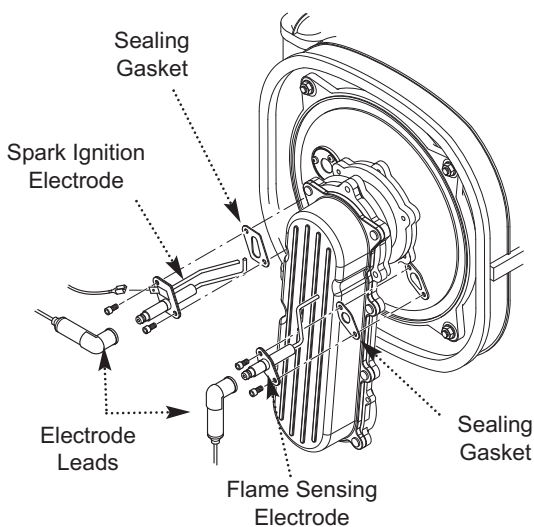

Fig. 49
3. Check the condition of the sealing gaskets and replace if necessary. Reassemble in reverse order (Fig. 49).